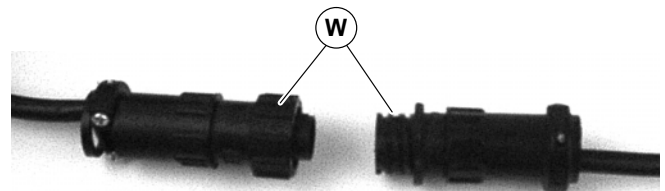

Figure 14
- For DC variable speed motor, unplug motor cord at disconnect (W of Figure 14).